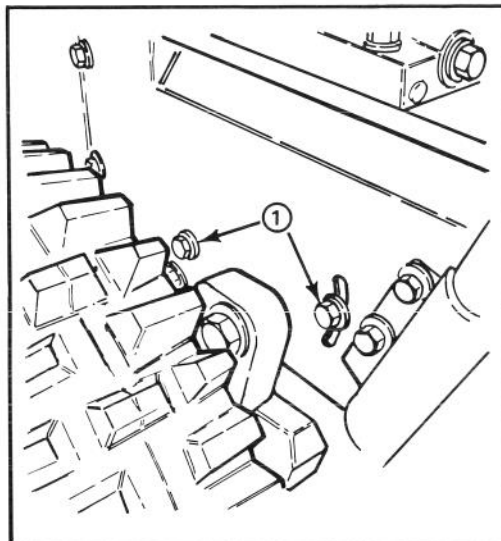

Figure 23
3. Loosen (4) flange head capscrews (2 each side) securing transmission frame to engine frame (Fig. 23).